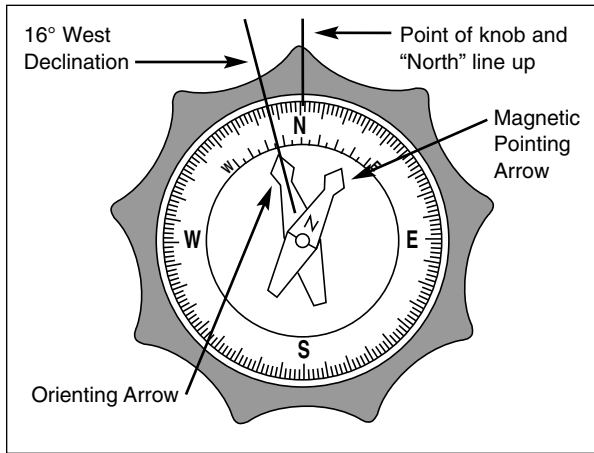

Fig. 16: Magnetic Compass.
3. With the right hand, rotate the outer dial until the orienting arrow (the black arrow painted on the inside clear surface) is lined up with the desired Magnetic Declination angle on the declination scale. Notice that East Magnetic Declination is to the right of the "North" position and West Magnetic Declination is left. As an example, Fig. 16 shows the correct setting for 16 degrees West Declination, which covers Providence, Rhode Island.
1. Snap the Magnetic Compass into the 3" diameter wedge attachment knob (after setting the Magnetic Declination as described above). Position the compass into the knob so that the 360 degree location on the direction scale (the "North" position) lines up with one of the nine points of the knobs. (See Fig. 16.) Press the compass firmly into the knob.